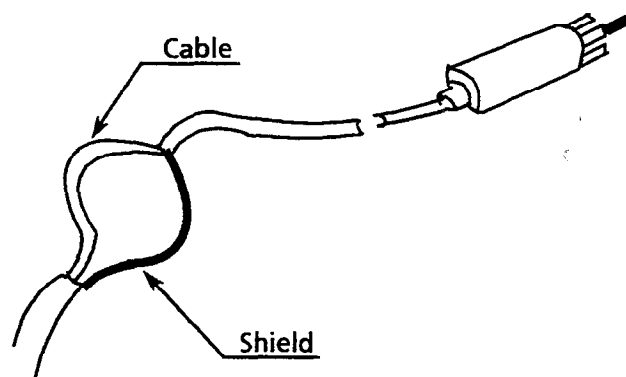

Figure 2-77 MOH Cable Shield Ground Exposed
4. Bend the cable near the middle of the exposed shield and separate the shield from the inner insulation in preparation for soldering. Refer to Figure 2-77 - MOH Cable Shield Ground Exposed.